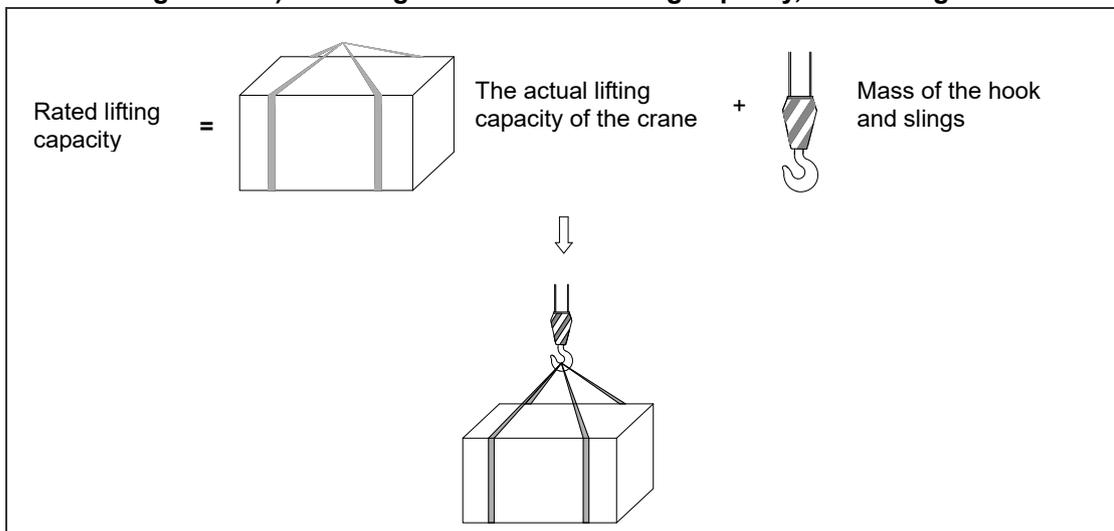

Figure 1-25 Rated lifting capacity
- (1) The sliding beams of outriggers must be extended (to a uniform length on both sides) to the extent stated in the lifting capacity table. All wheels must be raised clear of the ground.
- (2) The values in the lifting capacity tables are suitable for 360° full range operation.
- (3) The values given in the lifting capacity tables are the max. permissible lifting capacities under various OMs and specified operating conditions. The values as given in the tables include the mass of the hook (Refer to Table 1-7 Hook configurations) and slings. For the rated lifting capacity, refer to Figure 1-25.